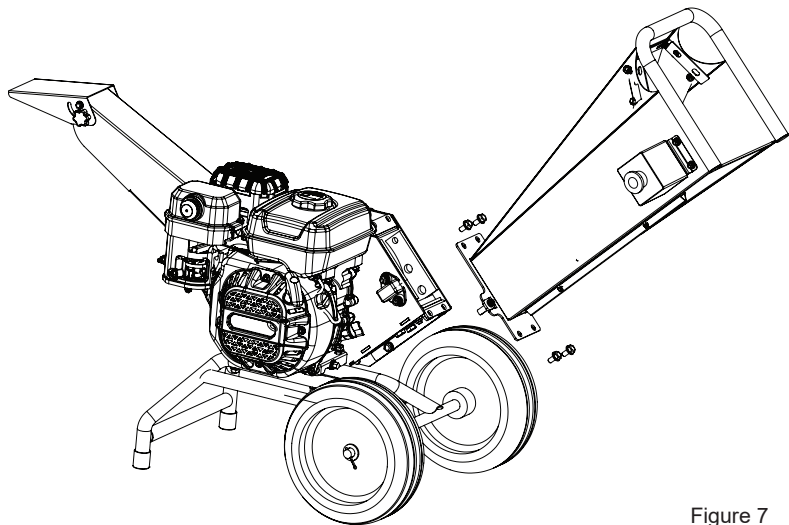

Figure 7
- 1. Loosen the 4 M8*16 bolts (B), remove safety key and in-feed hopper (A). (See Figure 7)